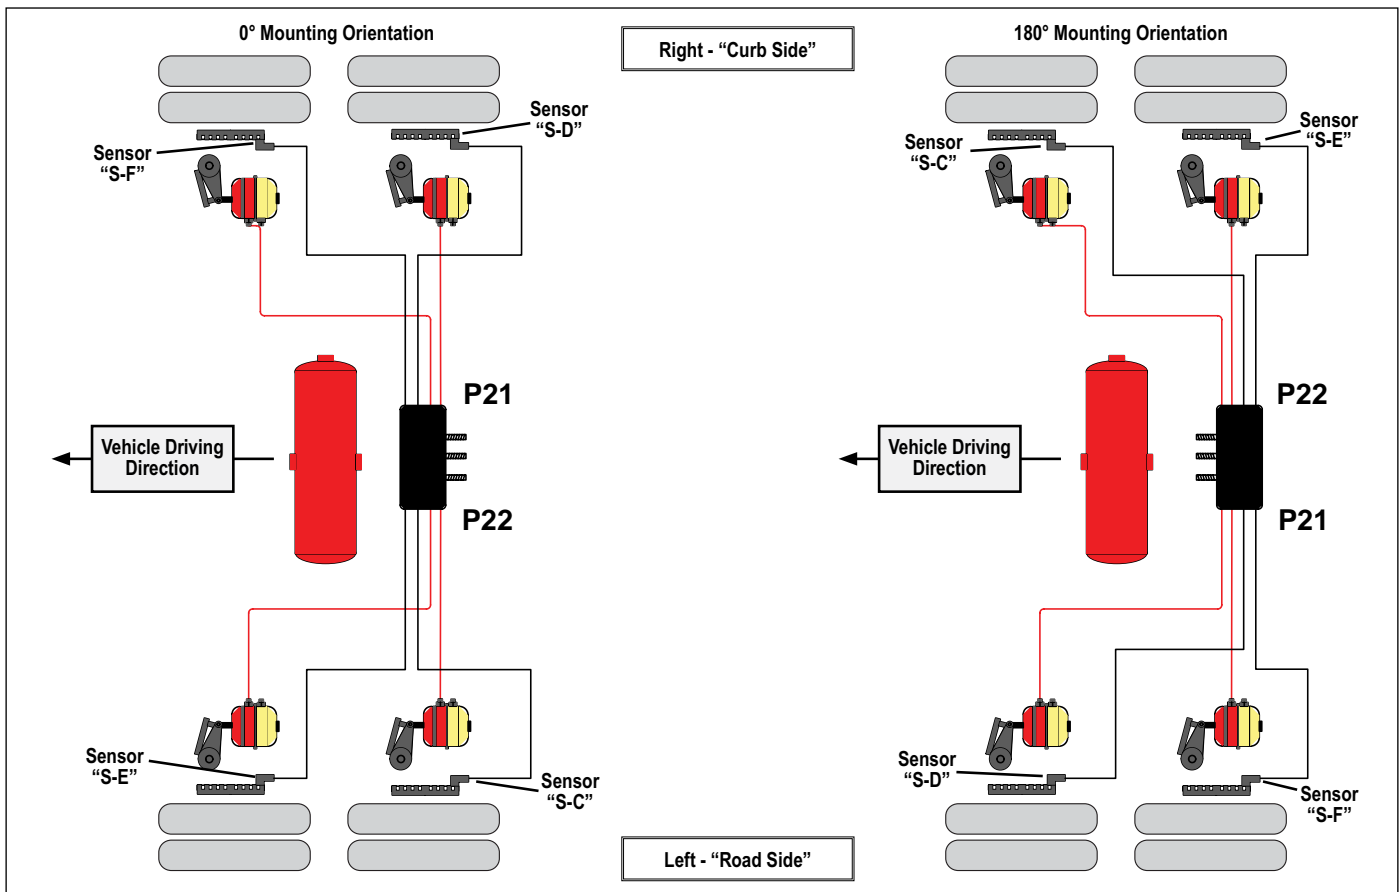

FIGURE 19 - WHEEL SPEED SENSOR INSTALLATION
Note: The wheel speed sensors must follow the orientation of the module as shown in Figure 19 for fixed axle trailers. Where a lift-axle is present, and sensors are to be installed on that axle, secondary sensors SE and SF must be used for the lift-axle.
- If the wheel sensor location does not match the orientation of the Bendix TABS-6 Advanced MC module shown in Figure 19, a Diagnostic Trouble Code (DTC) will be generated and the ABS indicator lamp will be illuminated.